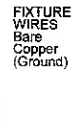

Fig. 3
Replacing LED module (Fig.3)
The LED module can be replaced by a qualified electrician without cutting the wires and without damaging the decorative element to which the fixture is attached. See installation steps for more details (Fig.3)
- a. Loosen finial (M) and remove glass shade (L).
- b. To remove the fixture from the ceiling: loosen the cap nuts (H) and remove the wire connectors. Then place the fixture on a clear flat surface (Fig.3).
- c. Loosen nipple (K) and remove the metal washer (P), plastic washer (O) and glass shade (Q).
- d. Loosen screws (T), then carefully remove the LED module (N) from ceiling pan (I).